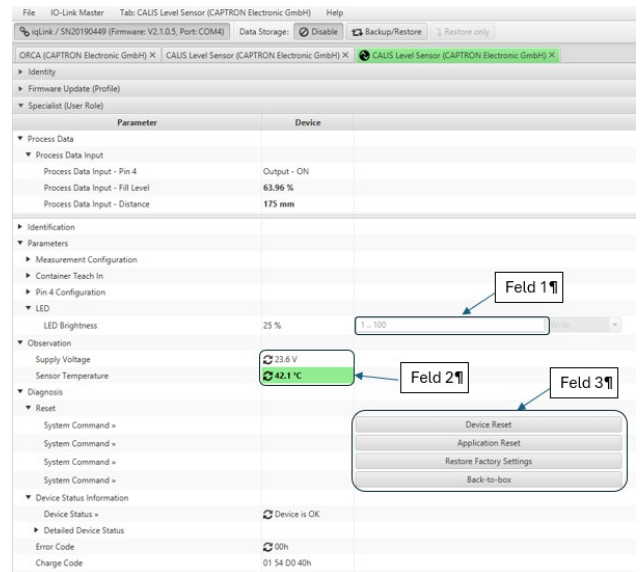

Figure 10 - Observation and diagnosis
- The brightness can be set by entering a percentage value from 1 to 100 % ("see Figure 10 - Observation and Diagnosis", field 1).
The current supply voltage level and the current temperature of the electronics in the sensor are displayed in this area ("see Figure 10 - Observation and diagnosis", field 2).
A reset can be performed on the sensor in this area ("see Figure 10 - Observation and Diagnosis", field 3). Four types of resets are possible in accordance with the IO-Link standard.